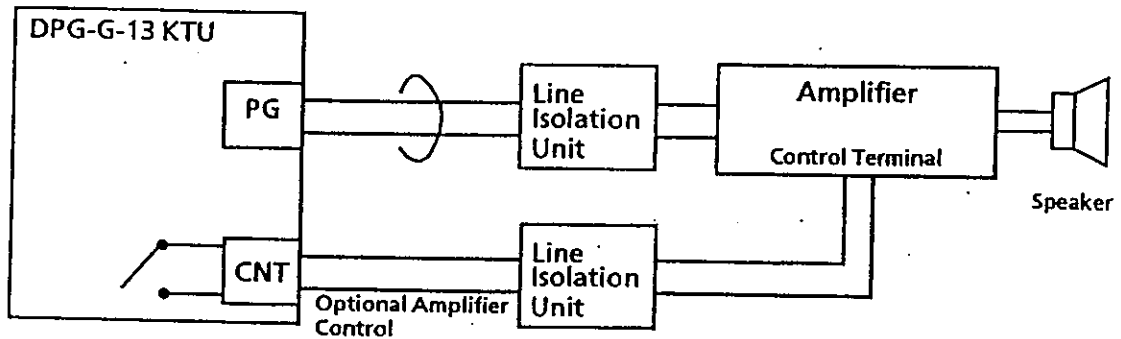

Figure 1-63 External Paging Equipment Connection
It is necessary for the audio output to be connected to a locally provided amplifier and speaker(s). Only 1-way paging is available. For connection information to a locally provided amplifier, refer to Figure 1-63 - External Paging Equipment Connection. For external paging audio output level and impedance, refer to Section 2.12 - External Equipment Interface in this chapter.
1. In Figure 1-63, the relay contact connected to one of the General Purpose Relays is closed when the external speaker is operated. This General Purpose Relay must be set to "External Speaker" in System Programming.